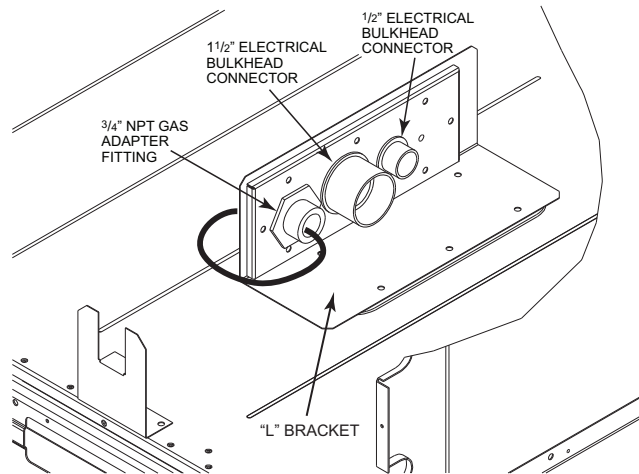

Fig. 28 — Thru-Base Connection Fittings (Size 180 Shown)
FACTORY-OPTION THRU-BASE GAS CONNECTIONS (SIZE 180) — This service connection kit consists of a 3/4-in. NPT gas adapter fitting (stainless steel), a 1/2-in. electrical bulkhead connector and a 1 1/2-in. electrical bulkhead connector, connected to an "L" bracket covering the embossed (raised) section of the unit basepan in the condenser section. See Fig. 28.
1. Remove the "L" bracket assembly from the unit (see Fig. 28).